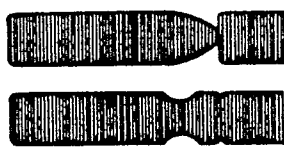
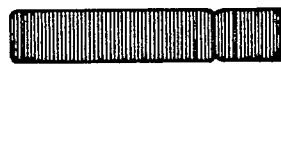
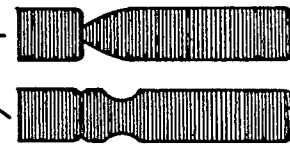

Fig. 8
Fig. 9
Fig. 10
5. If the FM waveform observed by oscilloscope is as same as shown in Fig. 8, adjust screw (F) until waveform becomes as shown in Fig. 9.
6. If the FM waveform observed by oscilloscope is as same as shown in Fig. 10, adjust screw (E) until wave form becomes as shown in Fig. 9.